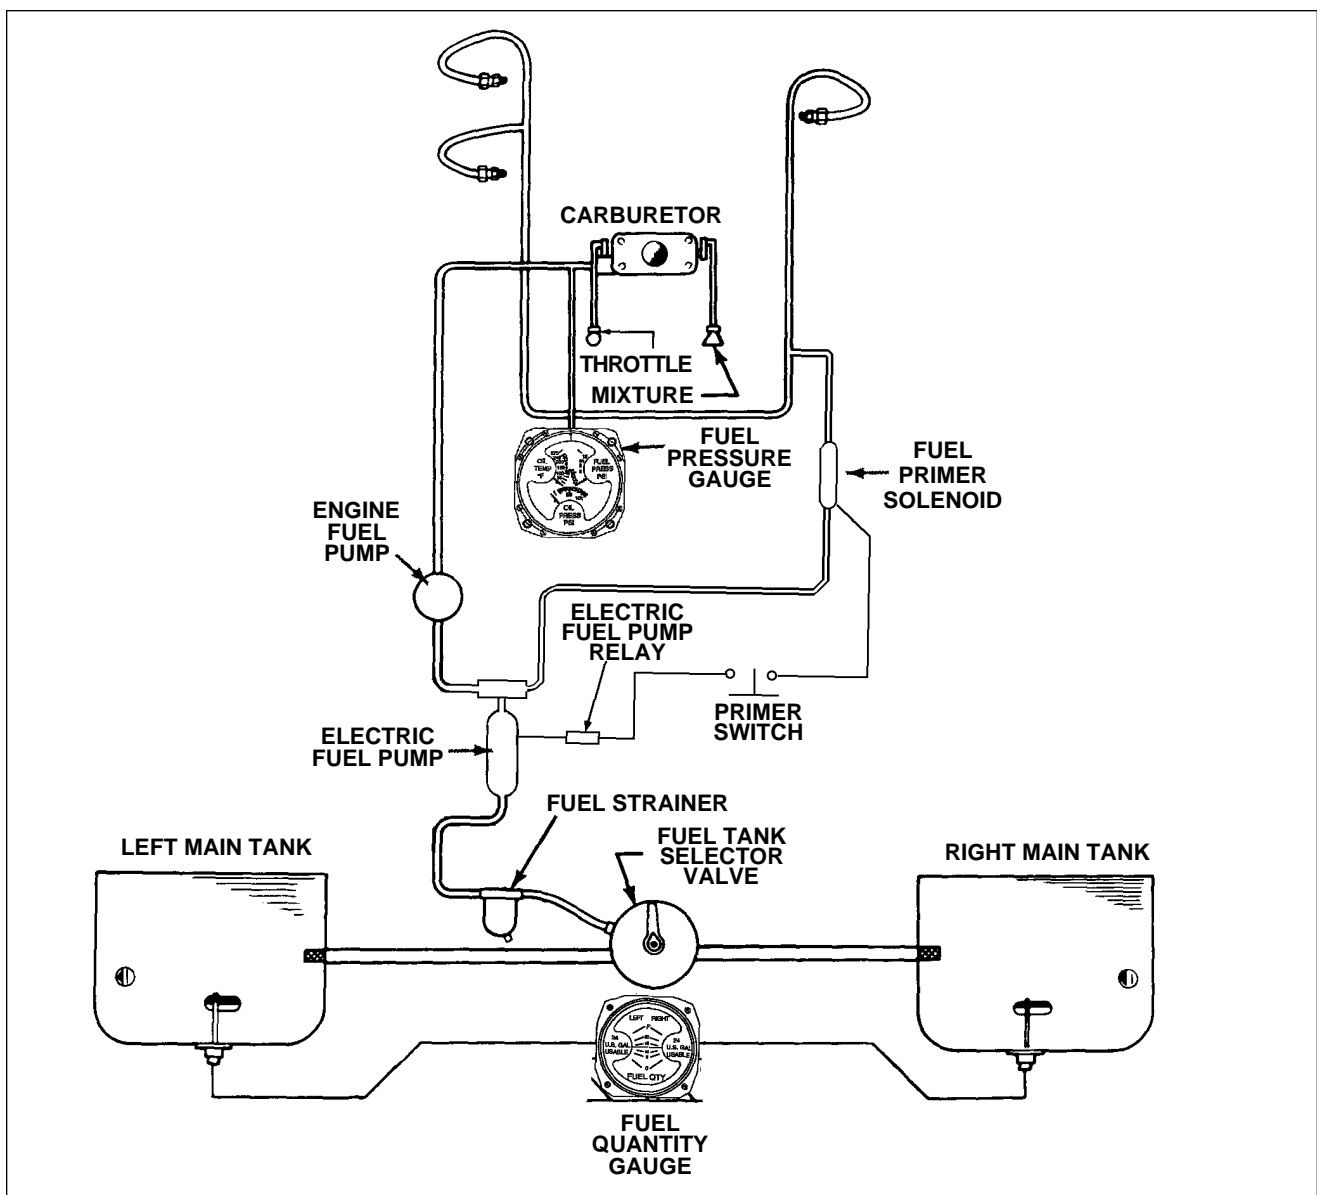

Figure 9-2. PA-28-161, Warrior III Fuel Systems Diagram
- b. PA-28-161, Warrior III. (Refer to Figure 9-2.)
PA-28-161, Warrior III airplanes are equipped with aluminum fuel tanks consisting of one in the inboard leading edge section of each wing. Each tank has a capacity of 25 gallons, of which 24 gallons are usable. A strainer is installed in the fuel outlet of each tank. A fuel line is routed from the tank outlet through the wings to the fuel selector valve located on the left side of the cabin in front of the pilot's seat. (Refer to Figure 9-2.) A line from the fuel selector valve leads to the fuel strainer bowl mounted on the left forward face of the firewall. From the strainer bowl a fuel line is routed to the electric fuel pump, the engine-driven fuel pump, and then to the carburetor and fuel inlet port.